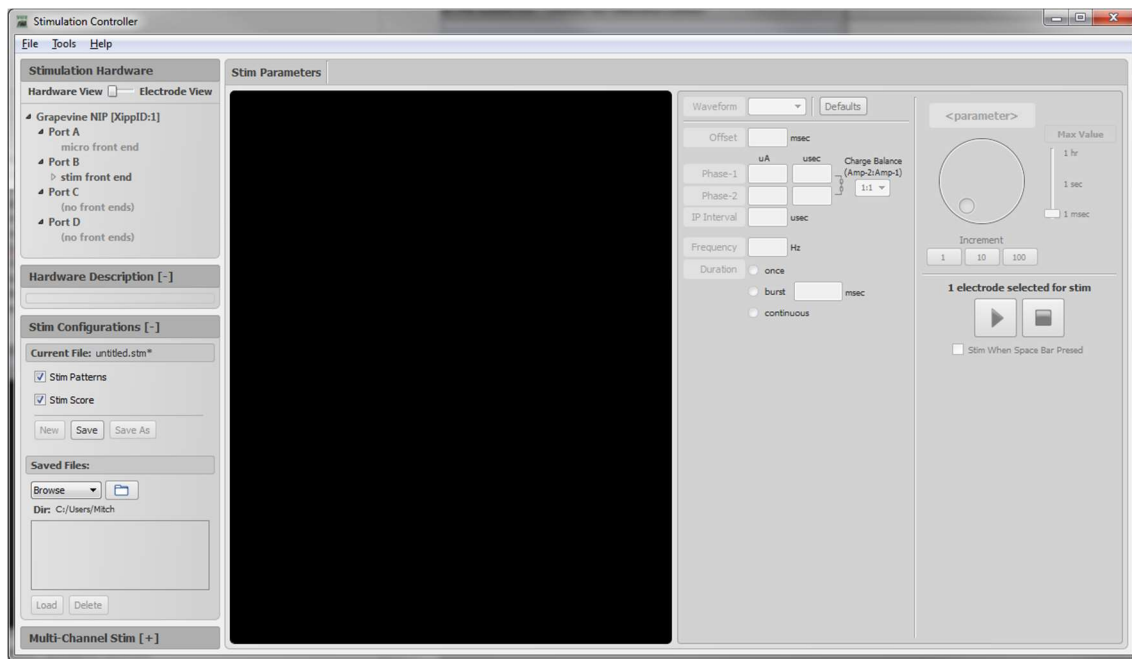
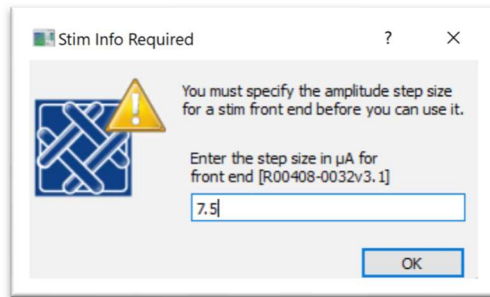
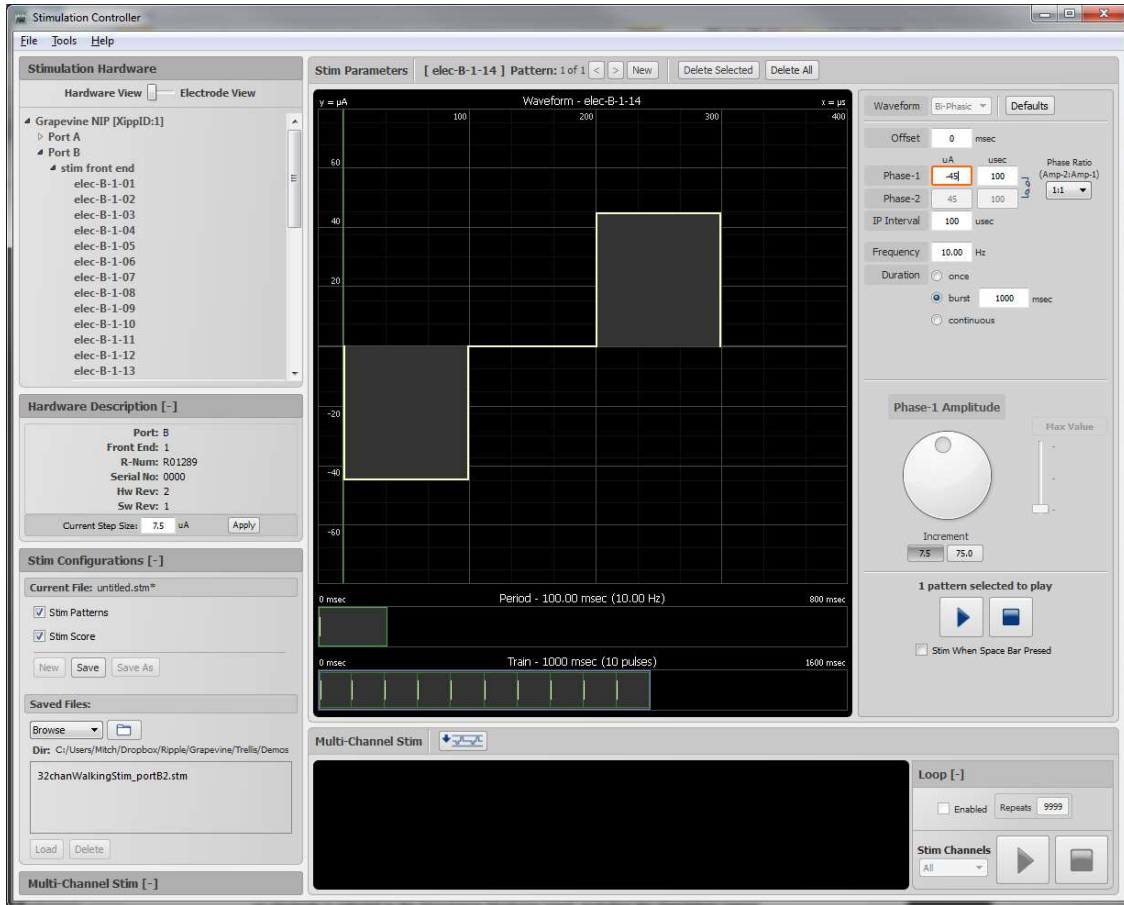

Figure 3-24 Trellis Applications – Stimulation Controller
Figure 3-25 Trellis Applications – Stimulation Controller – Stimulation current step size (Micro+Stim)
Figure 3-26 Trellis Applications – Stimulation Controller – single electrode stimulation pattern
When the application is started, the Stimulation Hardware panel in the top left will display all available Stim FEs and their channels. All other FEs, which do not support stimulation, will be grayed out, as shown in Figure 3-24. The stimulation current step size for Stim FEs is user-controlled and set in the Hardware Description Panel, described later in this section. For the older Micro+Stim FE, the stimulation current step size must be entered when a Micro+Stim is loaded in the Stimulation Controller app for the first time, as shown in Figure 3-25.
After expanding the ‘micro+stim front end’ entity in the Stimulation Hardware panel and selecting an available electrode, a configuration display will appear, as seen in Figure 3-26. This display provides the Front End hardware information and enables the configuration of various stimulation parameters for one or more electrodes as described in the following sections.
On the left of the Stimulation Controller window are several information and control panels that can be expanded and minimized by selecting the [+] or [-] next to each panel label. A detailed description of the panels follows (Refer to Figure 3-26):
- **Stimulation Hardware.** This panel displays a list of all available stimulation channels. In parentheses next to each electrode is a label indicating the number of different stimulation patterns that have been created for that electrode. When a channel is selected, its current stimulation pattern is displayed in the Stim Parameters control panel. If no patterns have been defined for a selected channel, a default pattern will be created (indicated by a \* in the channel list, as shown in Figure 3-26). An electrode map file can be used for electrode labeling by switching to ‘Electrode View’ and loading the desired map file.
- **Hardware Description.** The technical specifications of the FE will be displayed here when an electrode is selected in the Stimulation Hardware panel, including the stimulation current step size, shown as 7.5  $\mu\text{A}$  for the Micro+Stim FE in Figure 3-26. For Micro+Stim FEs, this is the discrete amplitude step size that is programmed in the FE at the time of production. The step size value must be entered when the Micro+Stim is first loaded in the Stimulation Controller app (Figure 3-25). If the wrong value is entered, the step size can be changed by altering the value and selecting ‘Apply’. For all other Stim FEs, this amplitude step size is user-selected through a drop-down menu.
A stimulation parameter can be changed either by entering a numerical value in the corresponding field or by selecting the field (noted by an orange box around it), and then using the parameter dial pictured below the parameter fields in Figure 3-26 and close-up in Figure 3-27 below. The dial can be rotated by clicking on it and dragging the mouse, or by positioning the cursor over the dial and rotating the mouse wheel (hold down Shift for a larger step size). The increment for changes in parameter value can be set by selecting one of the values below the dial and the maximum allowable parameter value can be set by moving the slider bar to the right of the dial.
**Waveform Display.** Shown in the top center of Figure 3-26 and in Figure 3-29, the Waveform display shows one cycle of the stimulation parameters for Phase-1, the IP Interval, and Phase-2. The time and amplitude scales of the Waveform display can be altered by positioning the cursor over the Waveform display and using the [+][-] buttons that appear, or by holding down the Shift key (Alt for amplitude), and then scrolling the mouse wheel.